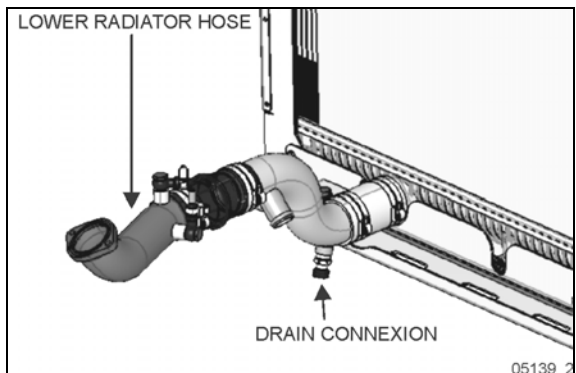

FIGURE 30: COOLANT DRAIN EXTRACTOR CONNECTION
- Connect coolant extractor (Figure 30) to the radiator drain cock and drain the coolant system as per *Draining cooling system in paragraph 7 of this section*.